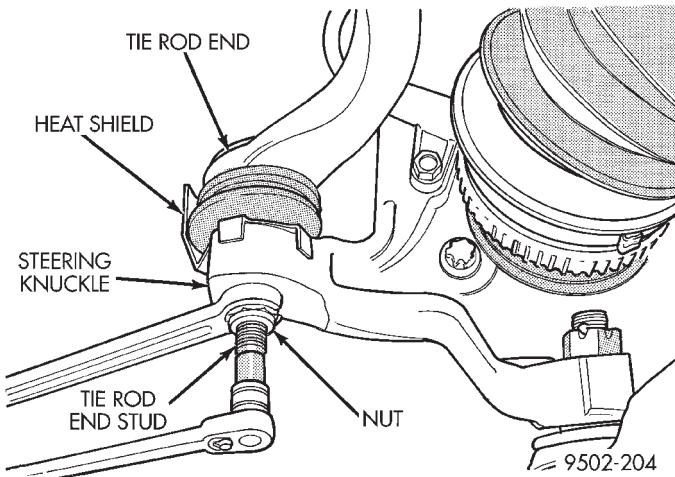
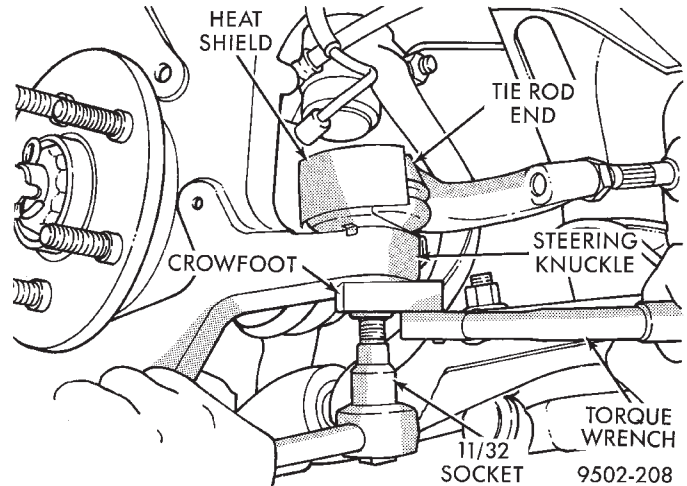

Fig. 64 Tie Rod End Attaching Nut Removal/Installation
Fig. 73 Torquing Tie Rod End Attaching Nut
(9) Remove nut attaching the outer tie rod end to the steering knuckle (Fig. 64). **Nut is to be removed from tie rod end using the following procedure, hold tie rod end stud with a 11/32 socket while loosening and removing nut with wrench (Fig. 64).**
CAUTION: When installing tie rod on steering knuckle the heat shield (Fig. 73) must be installed. If heat shield is not installed, tie rod seal boot can fail due to excessive heat from brake rotor.
- (8) Install tie rod end into the steering knuckle. Start tie rod end to steering knuckle attaching nut onto stud of tie rod end. While holding the stud of the tie rod end stationary, tighten tie rod end to steering knuckle attaching nut (Fig. 64). Then using a crowfoot and 11/32 socket tighten the attaching nut to a torque of 61 N·m (45 ft. lbs.) (Fig. 73).
- (9) Install rotor on hub and bearing.
- (10) Install disc brake caliper assembly on steering knuckle. Caliper is installed by first sliding top of